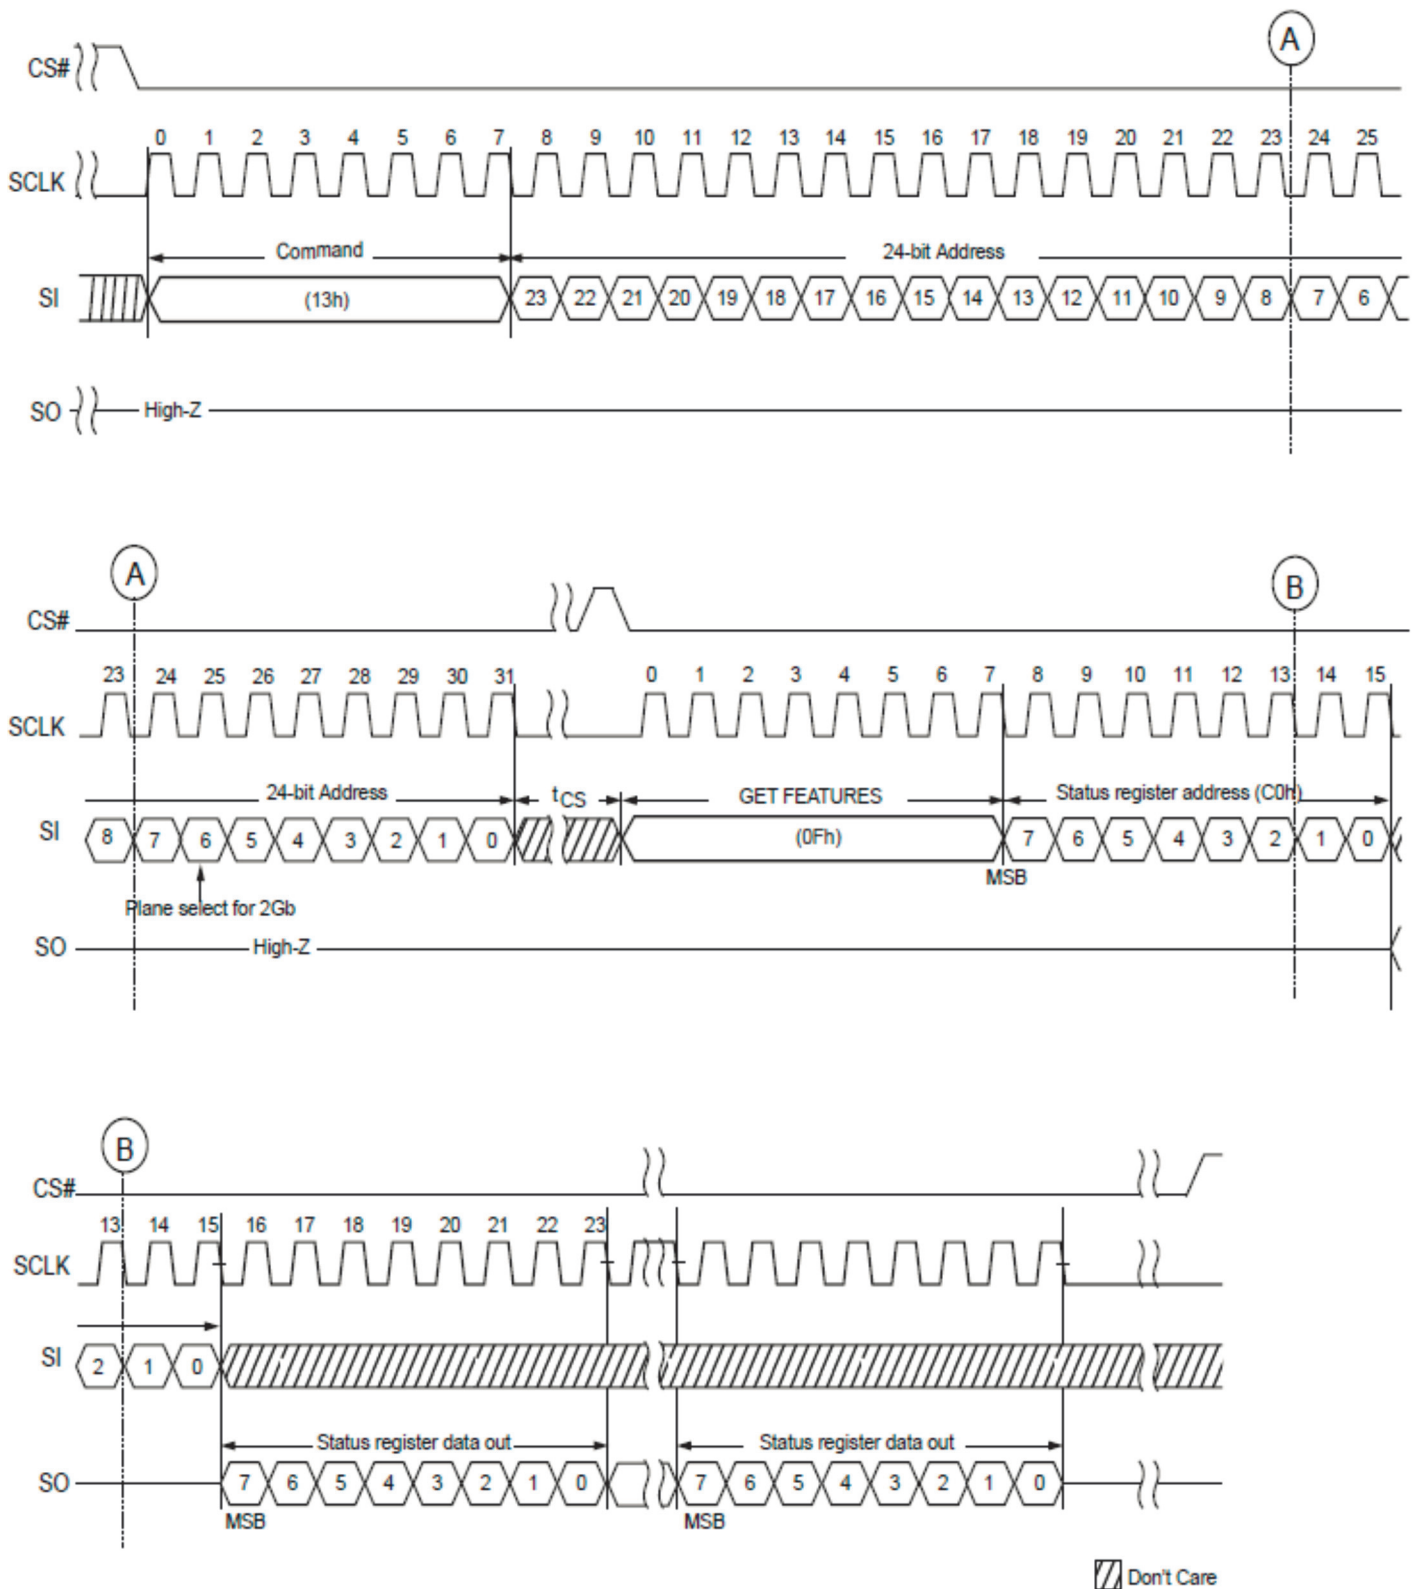

Figure 3.5 Page Read (13h)
The PAGE READ command requires a 24-bit address consisting of 8 dummy bits followed by a 16-bit block/page address. After the block/page addresses are registered, the device starts the transfer from the main array to the cache register, and is busy for tR time. During this time, the GET FEATURE (0Fh) command can be issued to monitor the status of the operation. Following a status of successful completion, the RANDOM DATA READ (03h or 0Bh) command must be issued in order to read the data out of the cache. The RANDOM DATA READ command requires 3 dummy bits, followed by a 1-bit plane select address and a 12-bit column address for the starting byte address. The starting byte address can be 0 to 2111. The Quad Enable bit (QE) of feature (B0[0]) must be set to enable the read from cache x4 command See **Figure 3.5, 3.6, 3.7, 3.8.**